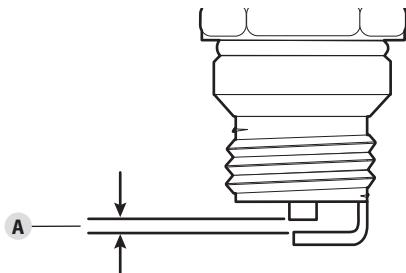

Fig. 21
- Use a feeler gauge to set the air gap (Fig. 21-A) at **0.025 in. (0.635 mm)**.